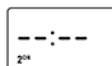

Figure11
4.2.3.4. Repeat the above steps to Complete all bell time settings, press the "R" key to remove the ring time, then LCD display "--:--", As shown in Figure11, again press the "R" button can recall the recent settings.